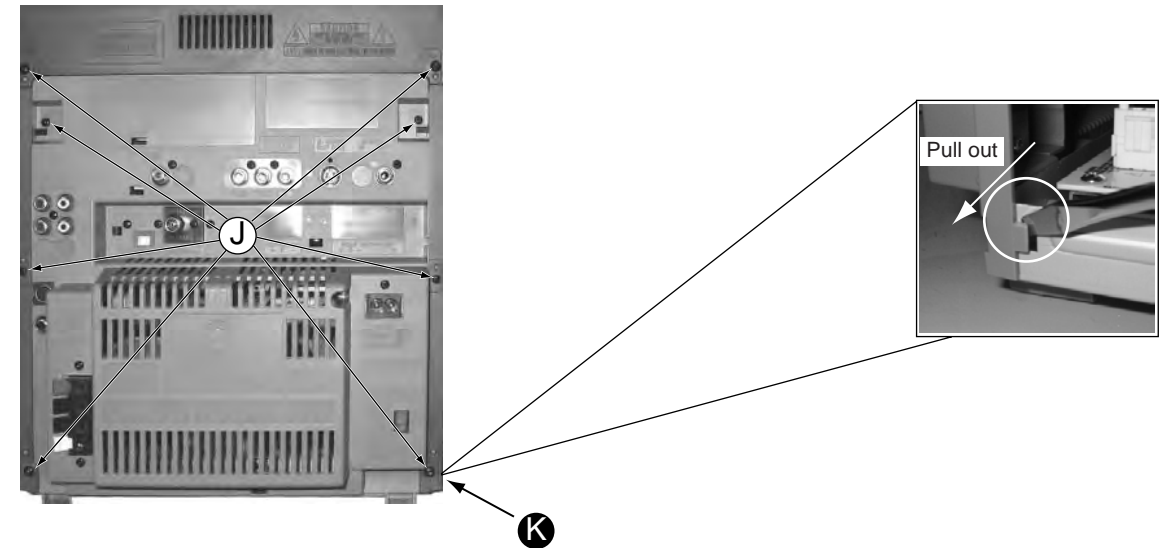

Figure 11
- 1) Loosen 8 screws ' J ' to remove the Rear Panel figure 11.
- 3) Release 2 catches ' K ' on both sides of the Rear Panel with the help of a minus screw driver and pull out the Rear Panel figure 11.